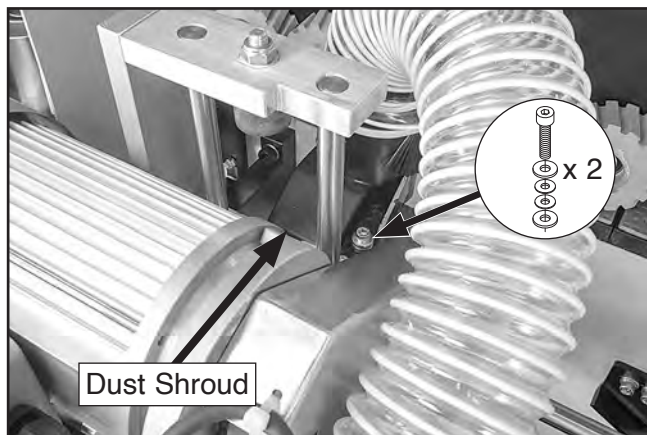

Figure 103. Location of dust shroud cap screw.
4. Remove (2) cap screws and washer sets, then remove end trimmer dust shroud (see **Figure 103**).